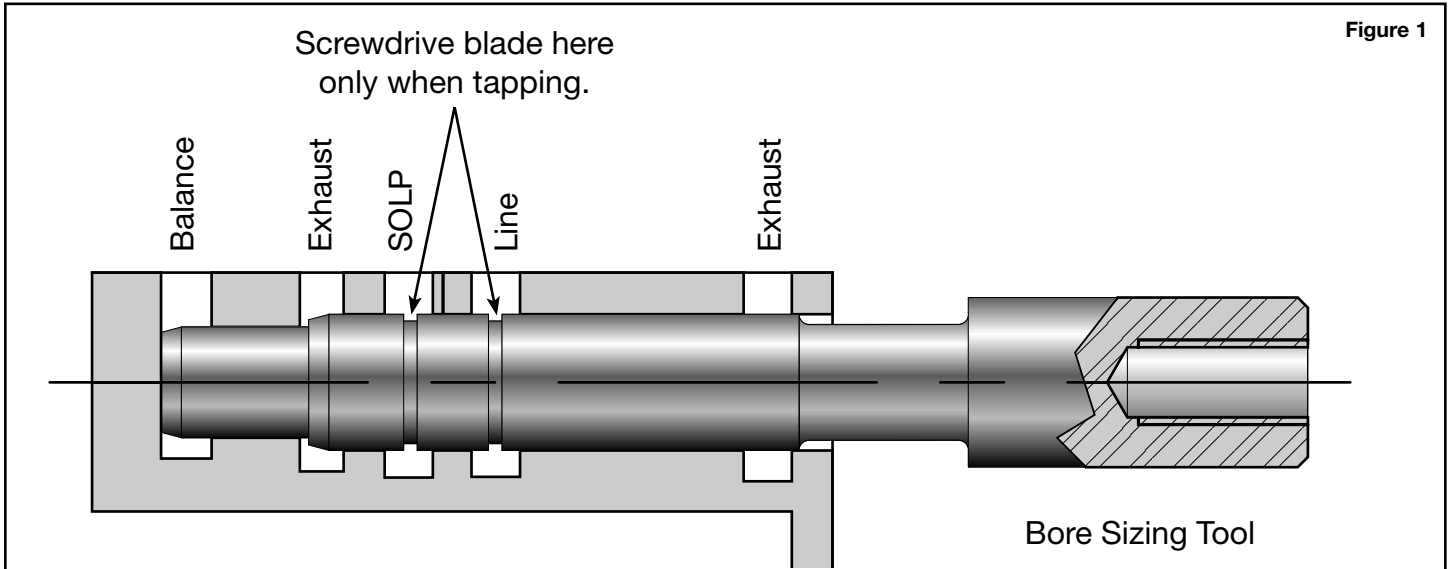

Figure 1
- With the valve in the idle/rest position, place a small amount of oil into the balance port (**Figure 1**, page 2). Follow with low air pressure. There should be little or no oil/air leakage past the valve spool and out the neighboring exhaust port.
- Insert the end of Sonnax bore sizing tool 76948-BST2 into the solenoid regulator bore (Figure 1). Press it into bore until it bottoms. A $\frac{1}{4}$ – 20 UNC tapped hole is provided in the tool to adapt to a puller or slide hammer, if needed.